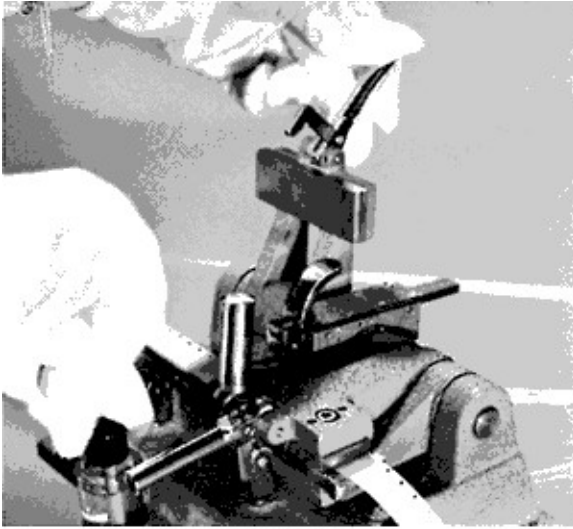

Figure 12
- Your right hand completes the process of securing the cap to the cement bottle (Fig. 12).